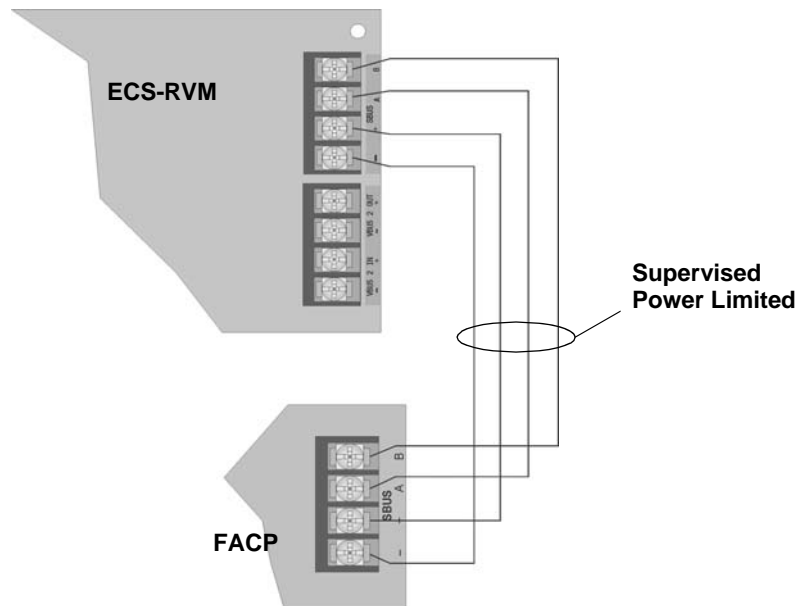

Figure 4-79 SBUS Connections
1. Refer to Figure 4-79 to properly connect the ECS-RVM to the FACP's SBUS.
2. Disconnect the SBUS connections from the SBUS terminals on the ECS-RVM. See Figure 4-79.